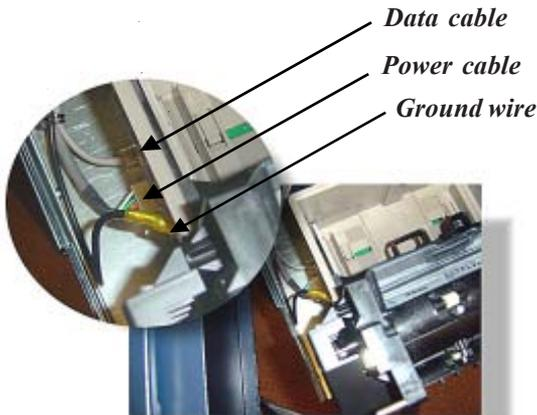

Figure 6. Dispenser cable connections.
- Connect the dispenser data, power, and ground wire cables to their respective connections on the left side of the TDM-50 (Figure 6).